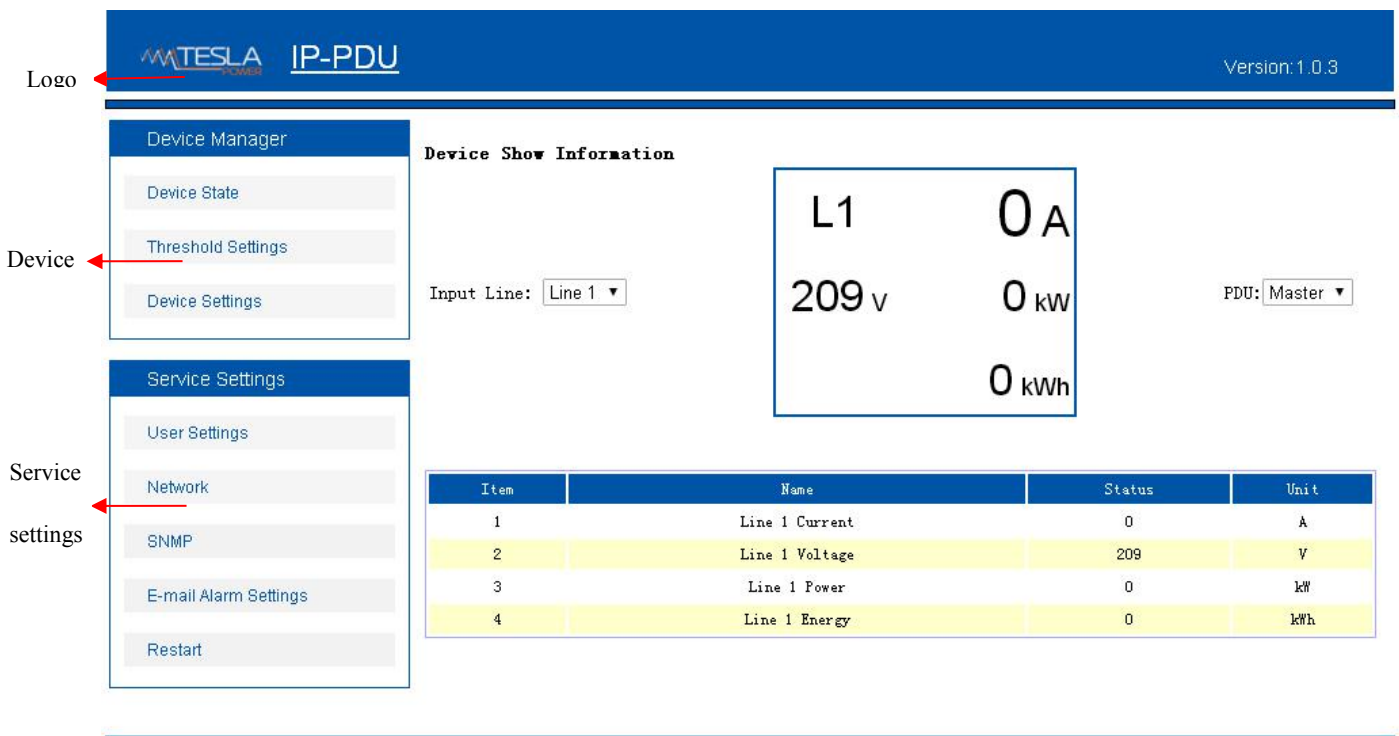

figure 2
LCM2nd screen display:Master/Slave Address code(range from 0 to 4) as figure 2
LCM 2nd screen display the parameter of phase 2: current(0.0A); voltage(220VAC); power (0.0kW); energy consumption(0.0kWh) as figure 2
(figure 2)
4.2.Connecting the Master SER port with Slave LINK port with connection cable, then connect Slave SER port with next Slave LINK for all slaves with this sequence.The maximum cascading is 4pcs. Apply to IP-PDU2&SI-PDU2, refer to figure 2
User will see the home page(as figure 2) after entering the correct user name and password(username: nag; password: nag) in the login dialog box